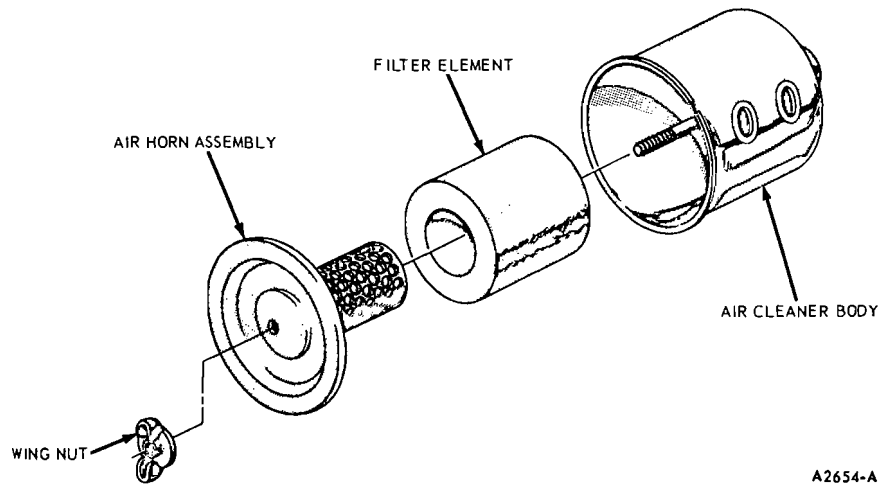

FIG. 26—Thermactor Exhaust Emission System Air Cleaner—Typical
1. Remove the cover assembly (Fig. 26). Remove the filter element from the cover assembly.